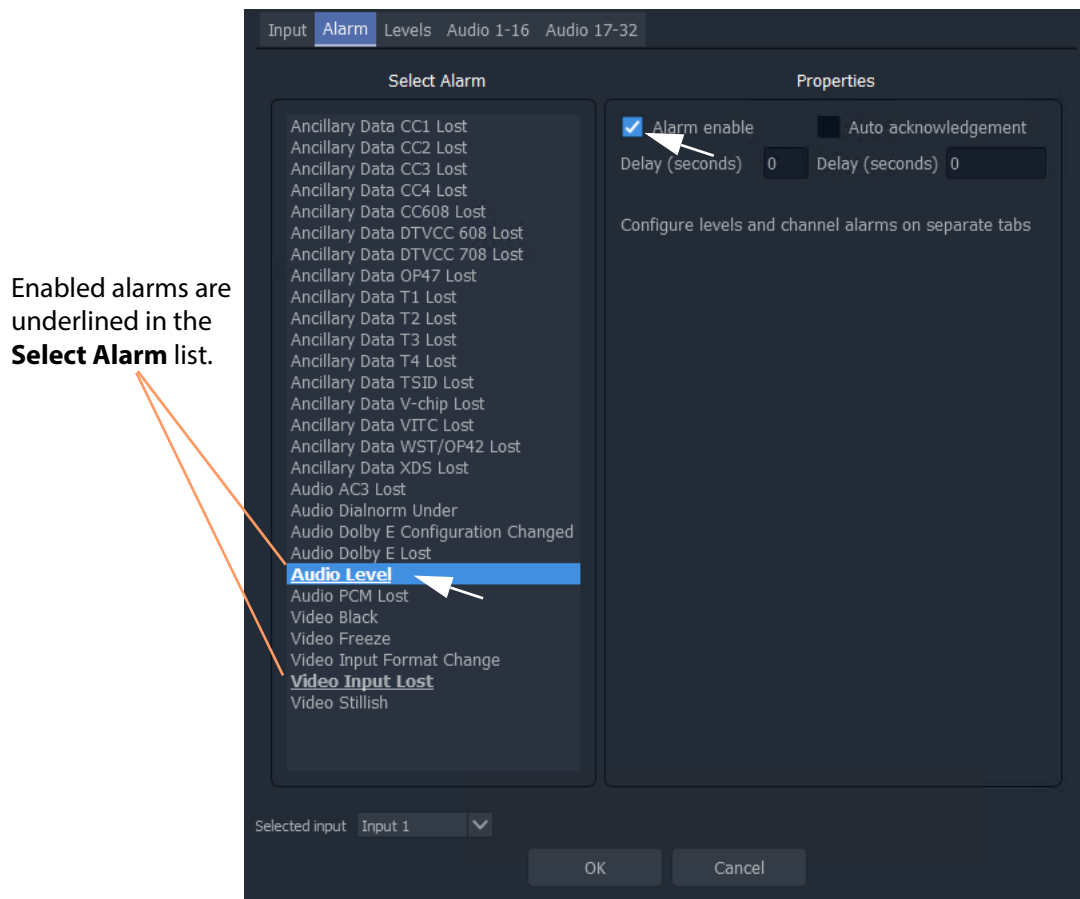

Fig. 7-9: Audio Levels Alarm Enabled
- 1 Select '**Audio Level**' in the list of alarms and then in the properties section, select **Alarm Enable**. See Figure 7-9.